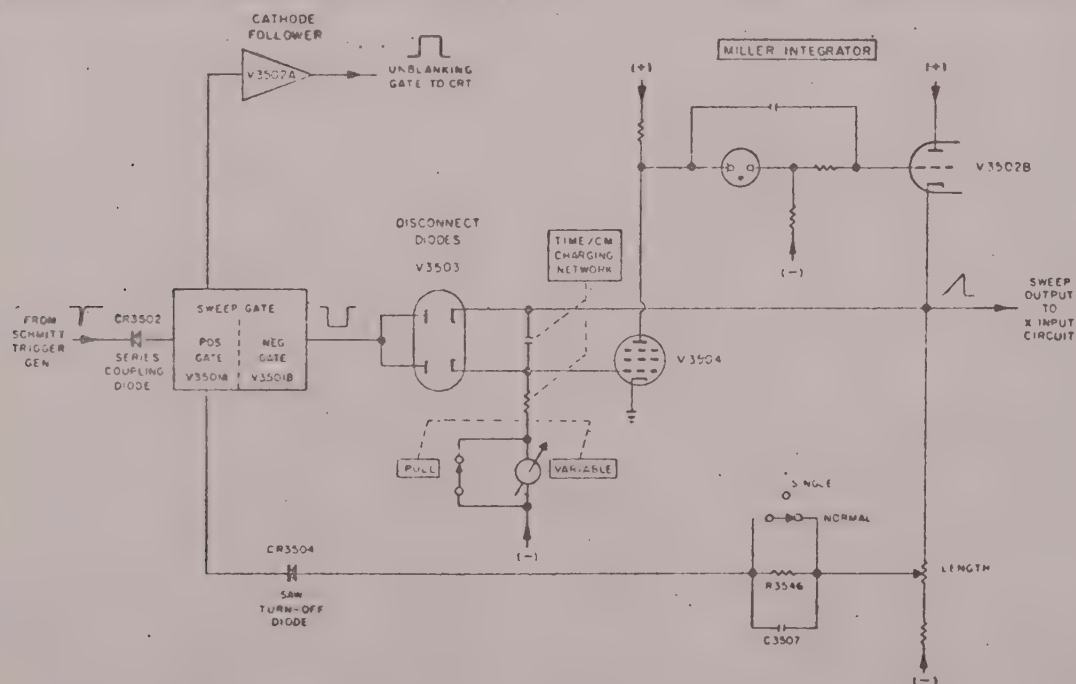

Figure 3-6. Sweep Generator, Simplified Diagram
- Figure 3-6. Sweep Generator, Simplified Block Diagram
3-5. SWEEP CIRCUIT (Figure 3-6)